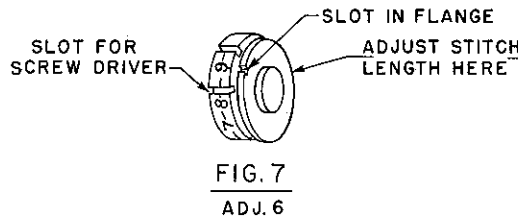

FIG. 7
40. The length of stitch is adjustable from 3 stitches per inch to 8 stitches per inch, by turning a numbered regulator on the main shaft in the rear of the head. See figure 7, adjustment 6, and chart on page 12A.